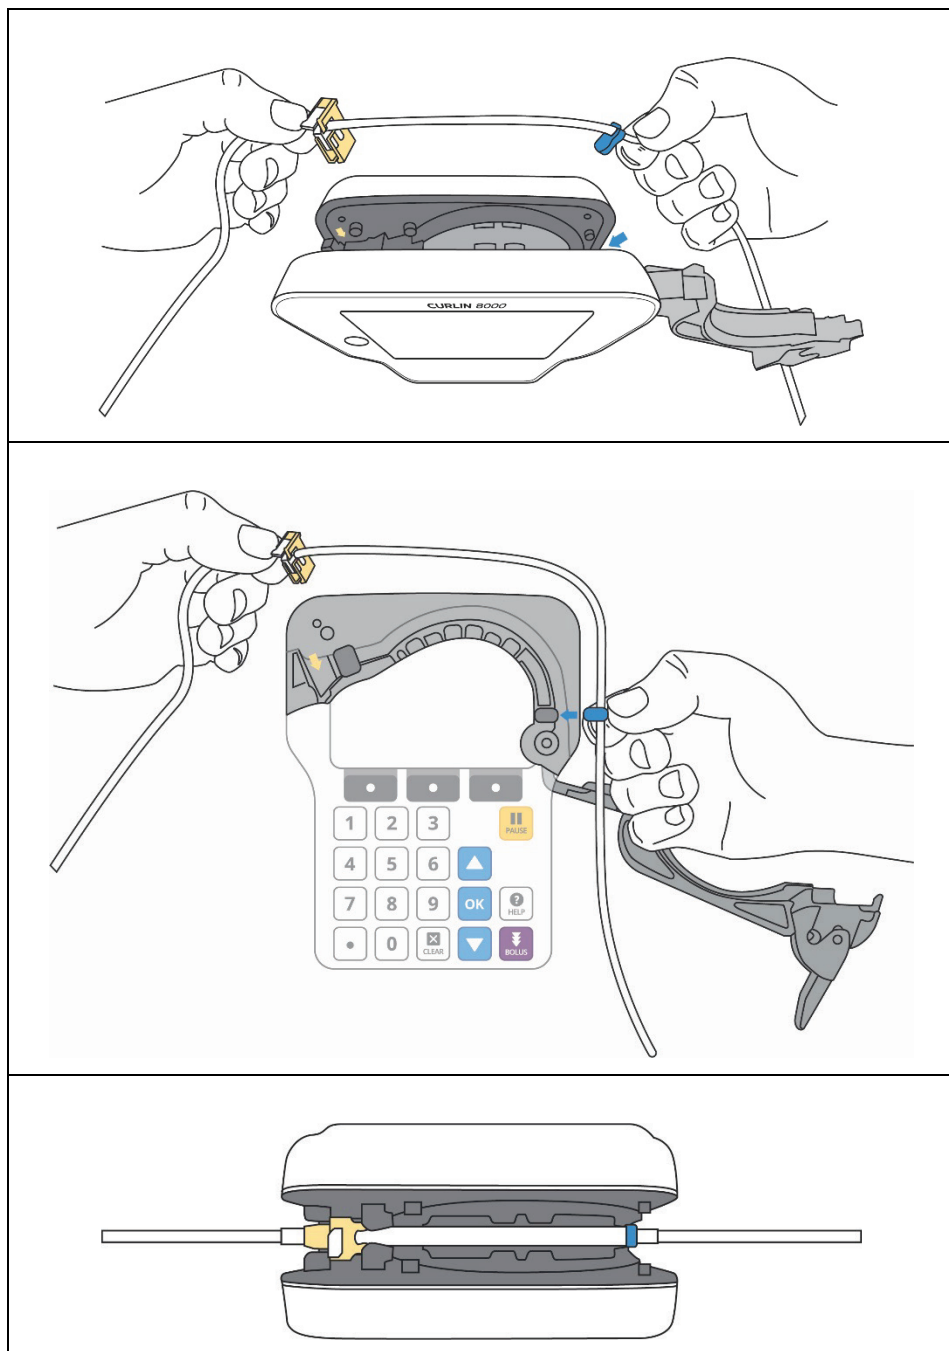

Figure 12: Inserting the Administration Set into the Pump
3. Insert the blue tubing guide pin into the hole under the right side of the pump indicated by the blue arrow inside the pump door. See Figure 12.
4. Without pressing down on top of the yellow flow-stop, insert the flow-stop into the square hole on the left side of the pump indicated by the yellow arrow inside the pump door. See Figure 12.